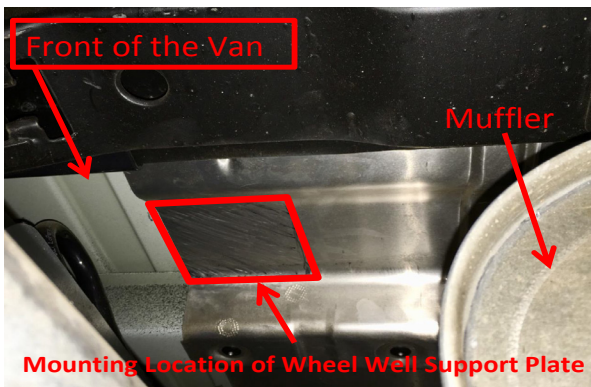

Figure 81. Location of the heat shield to be removed
5. Remove the section of heat shield that the rod holes have gone through. (Figure 81 and 82)